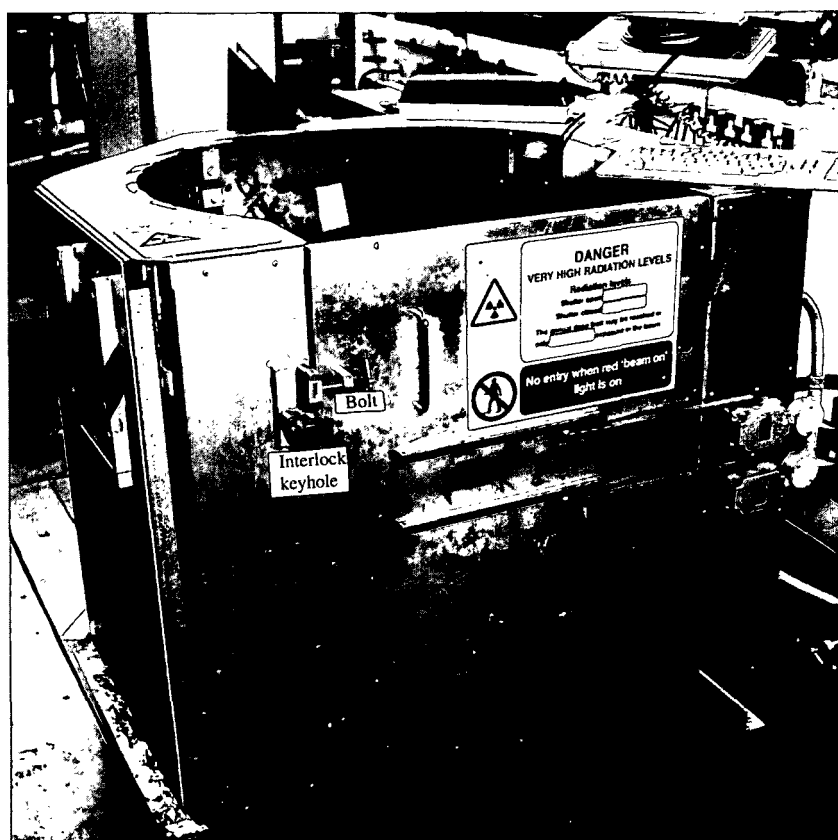
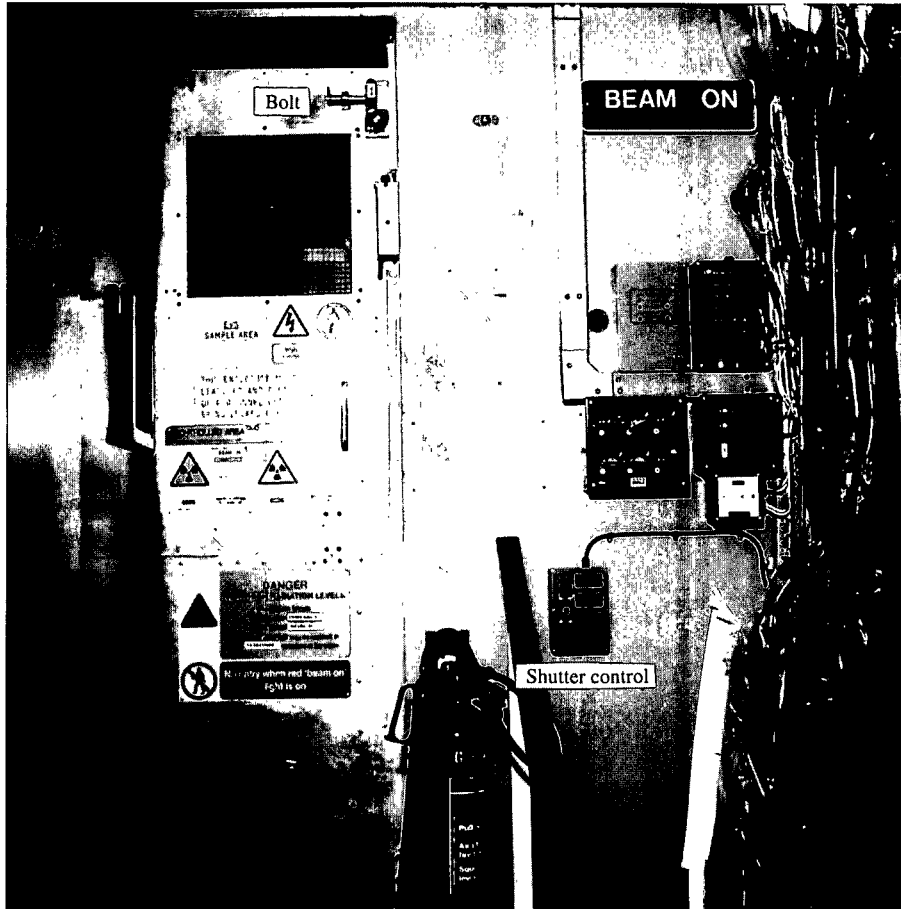

Figure 3 The instrument gate on top of the eVS beamline.
Figure 4 The door to the eVS blockhouse
There are two ways of accessing the neutron beam line, both of which are interlocked to make it impossible for you to inadvertently get your body in the neutron beam. The most usual way of access for users is via the instrument gate, (Figure 3) which is located on top of the eVS beam line. If you are **not** running your sample at room temperature and pressure, e.g. if you are using a cryostat, then you will almost certainly access the beam line via this route. The other method of access to the beam line is via the inside of the instrument blockhouse, through a door at ground level (see Figure 4). If you are running samples at room temperature and pressure, you will need to enter the blockhouse to change samples.
- (b) Close the blockhouse door (see Fig 4).